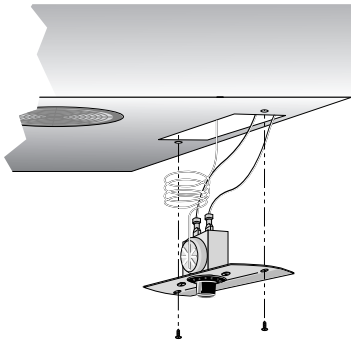

Fig. 1. Access the control body.
3. Carefully access the temperature control body (see fig. 1).